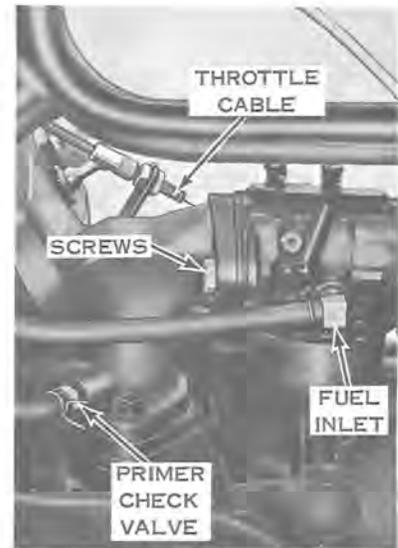

Figure 5-2
- a. Disconnect throttle cable at carburetor (see Figure 5-2).
- b. Disconnect fuel pump hose at carburetor elbow (see Figure 5-2).
- c. Remove screws, nuts, and washers attaching carburetor to intake manifold (see Figure 5-2). Remove carburetor from manifold.
- d. Disconnect fuel primer hose at check valve (see Figure 5-2). Remove two nuts attaching intake manifold, reed valve body, and gaskets to crankcase studs. Remove the intake manifold and reed valve assembly, taking care to avoid damaging the reed valves.